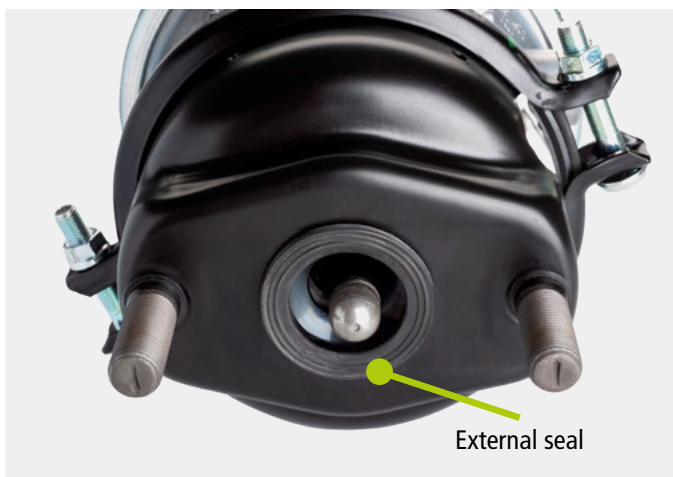

Figure 1.4
3. Make sure the external chamber flange seal is intact and seats correctly (see figure 1.4.)